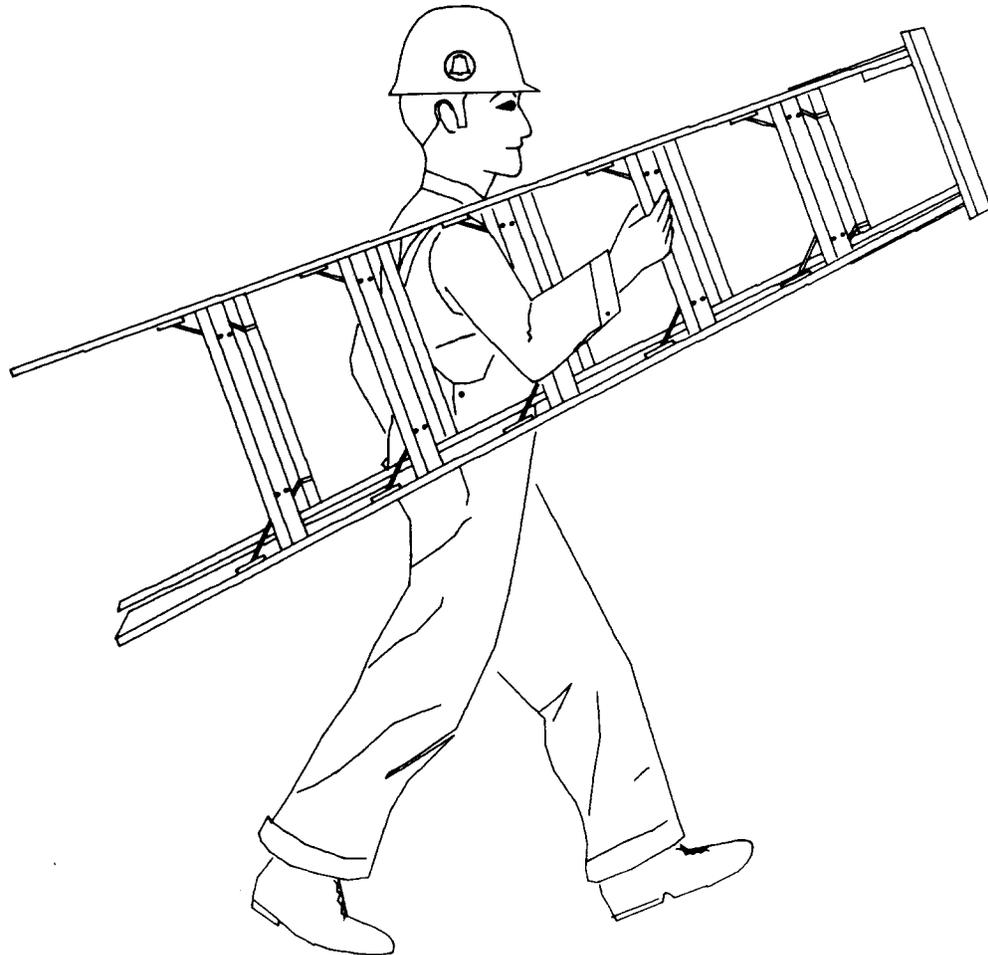

Fig. 4 — Carrying a Stepladder Under 8 Feet in Length
4.12 Stepladders up to and including the 8-foot size may conveniently be carried by one person as shown in Fig. 4.